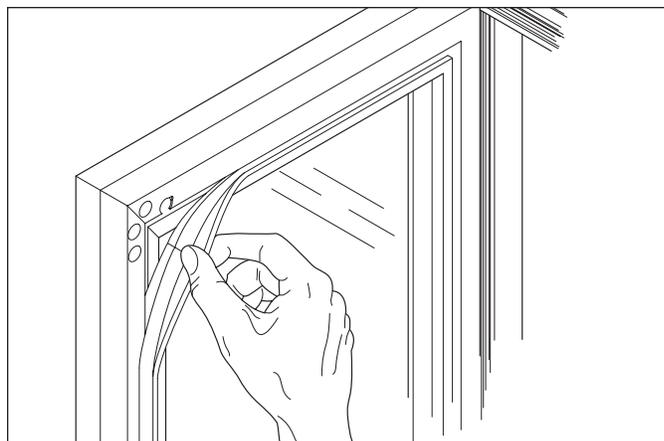

Figure 3-4. Door Gasket Removal
5. The door gasket can be removed for cleaning by pulling it out of its channel (See Figure 3-4).